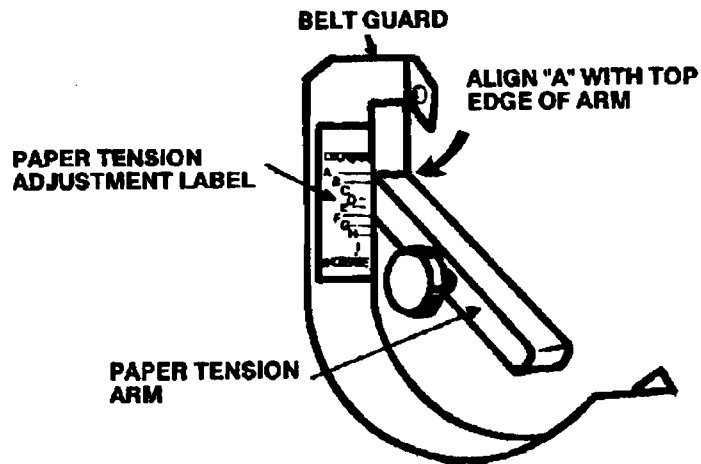

Figure 12. Applying the Paper Tension Adjustment Label
- Align the "A" position line on the label with the top edge of the lever and apply the label, holding it along the right edge of the cover (see Figure 12).